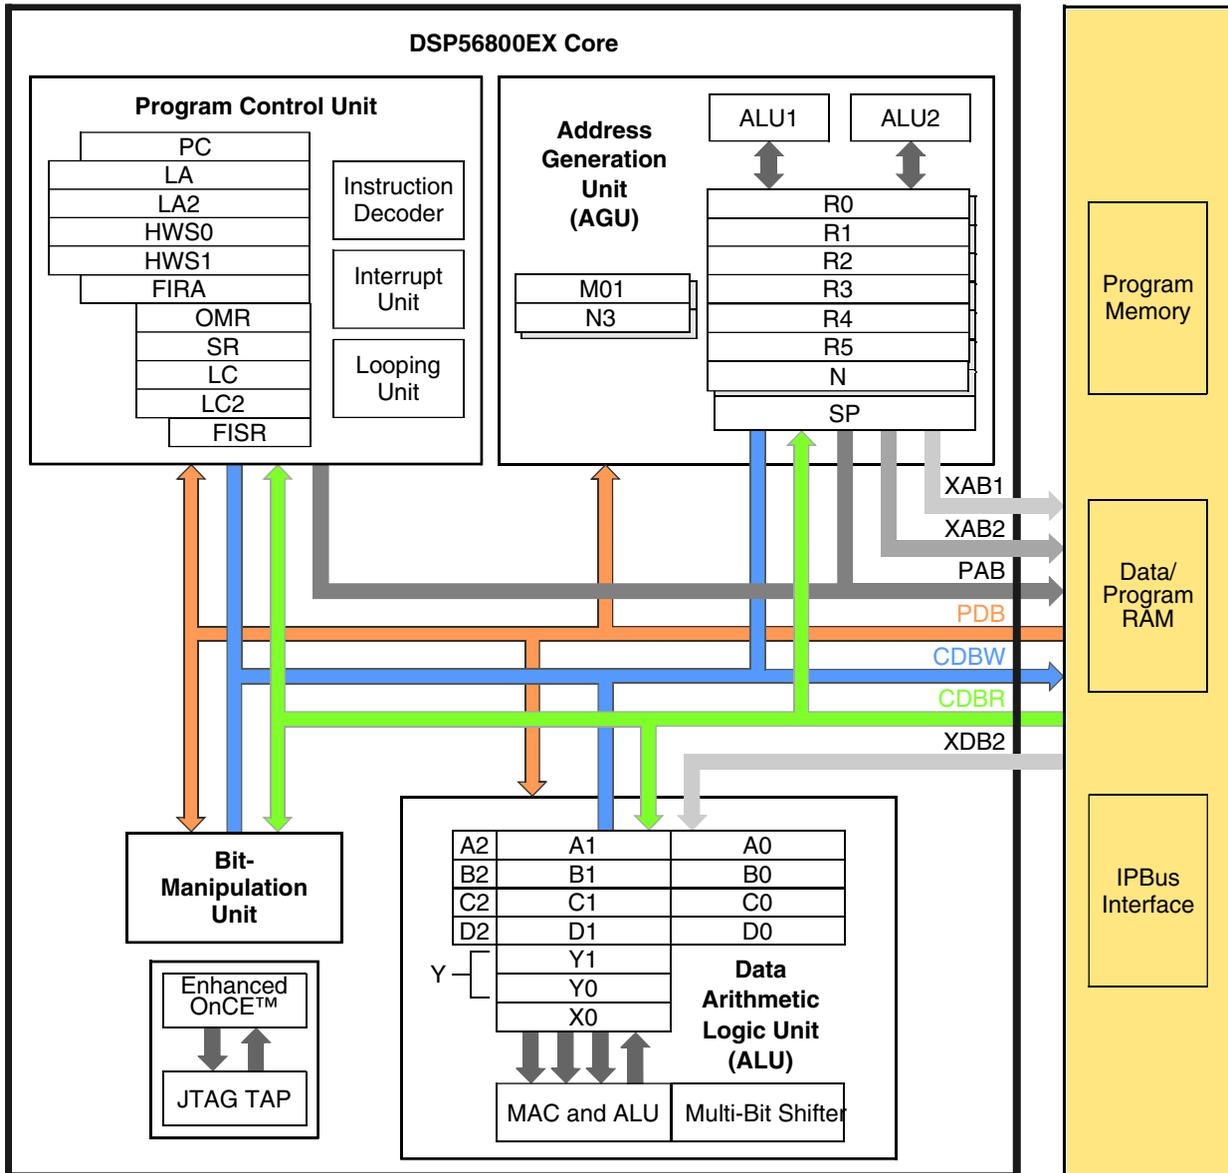
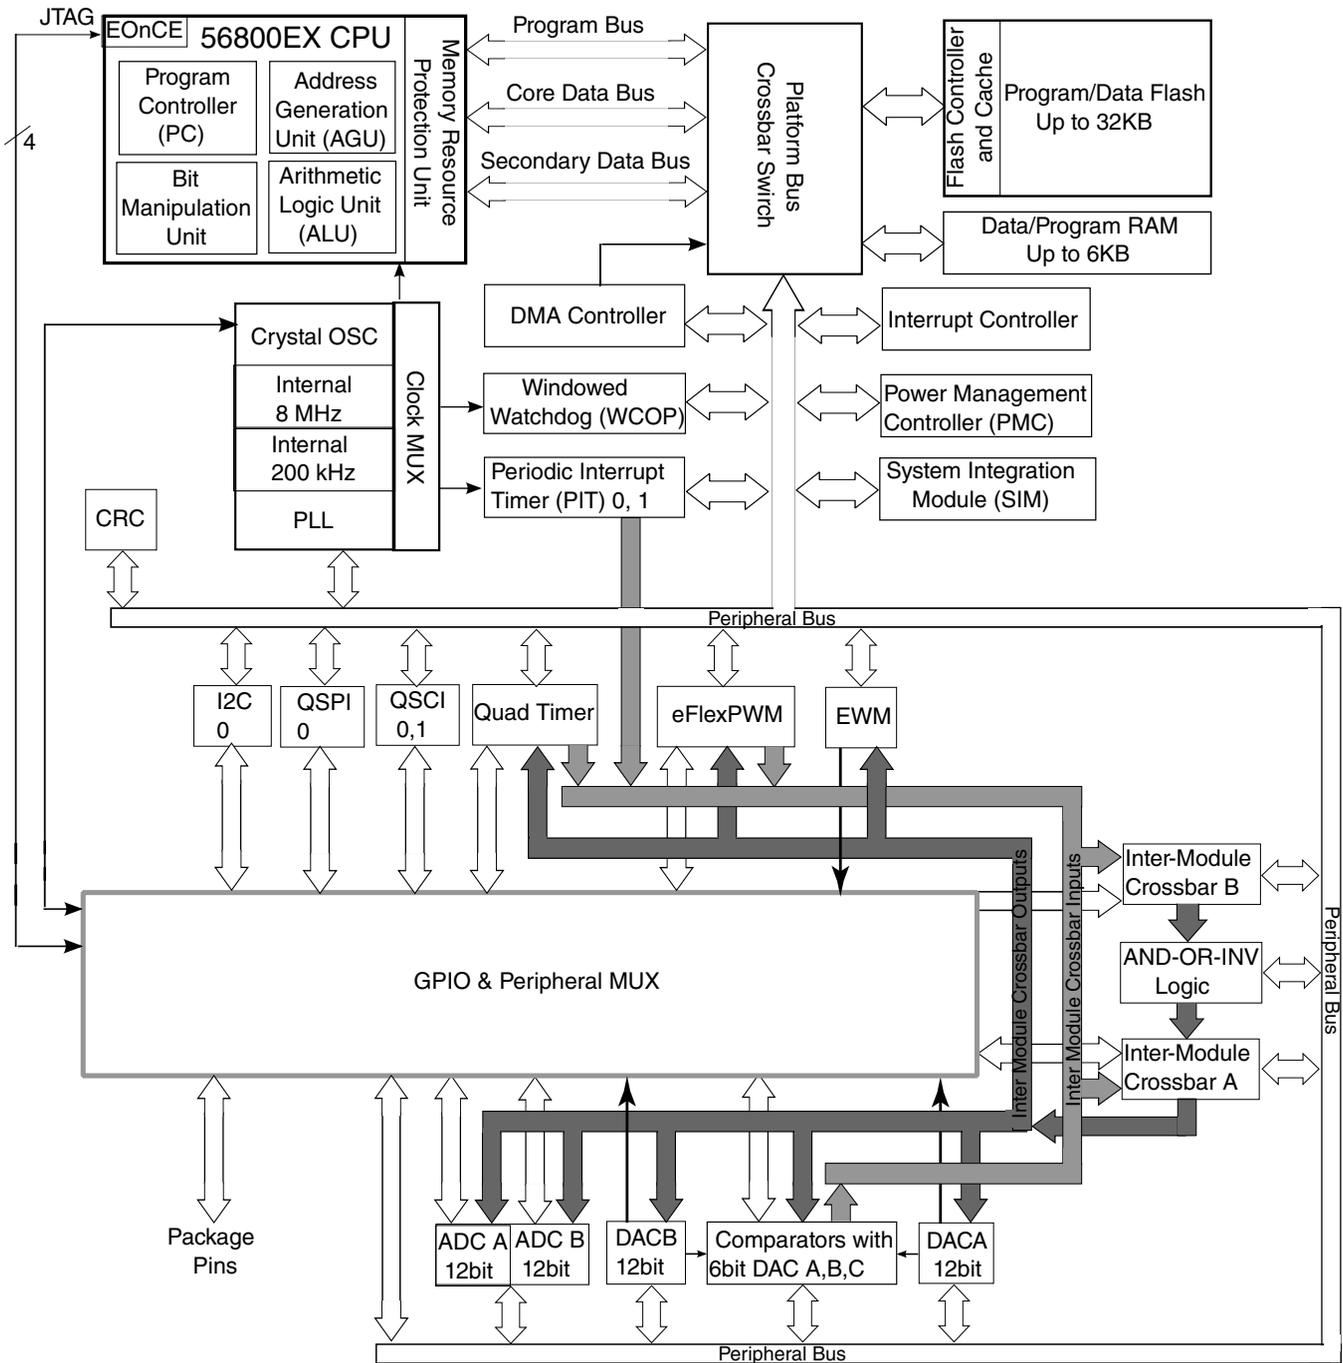

Figure 1. 56800EX basic block diagram
Figure 2. System diagram
The device's basic architecture appears in Figure 1 and Figure 2. Figure 1 shows how the 56800EX system buses communicate with internal memories, and the IPBus interface and the internal connections among the units of the 56800EX core. Figure 2 shows the peripherals and control blocks connected to the IPBus bridge. See the specific device's Reference Manual for details.
1. See Figure 1 for detail on using the recommended connection of an external clock driver.